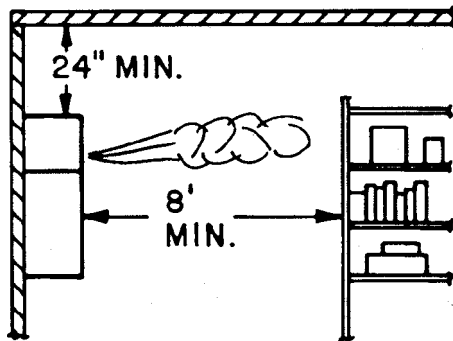

Figure 1-1
1. **Check the Location** for the fan unit. It should face out into the free space of the room, and there should be at least 24 inch clearance from the top of the fan unit to the ceiling. (See Figure 1-1).
1. **Check the Location for the fan unit.** It should face out into the free space of the room, and there should be at least 24 inch clearance from the top of the fan unit to the ceiling. (See Figure 1-1).